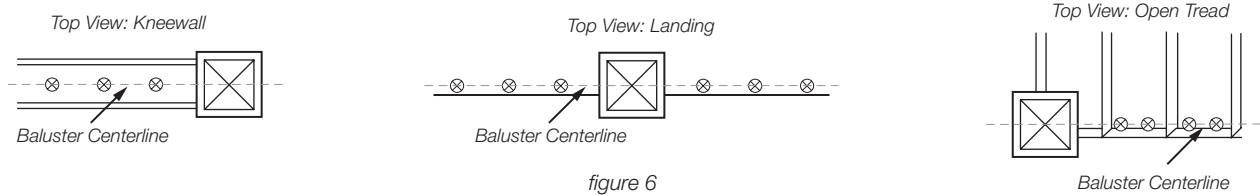

figure 6
3. Determine baluster centerline and newel mounting location (figure 6 - page 2). Apply construction adhesive to all mounting surfaces and then bolt mounting block to floor and check for level and square - loosen or tighten bolts to adjust (figure 4).
1. Determine mounting location, centerline (figure 6) and finished rail height. Then measure, mark and cut bottom of newel post base to accommodate. To minimize tearout, pre-score all cut lines with a razor knife and use a sharp saw blade (figure 3 - page 1).